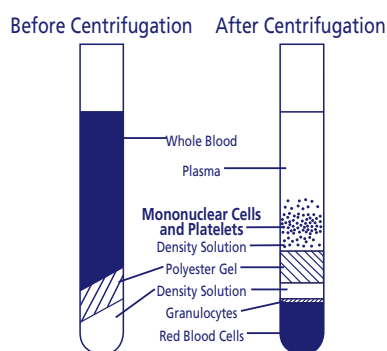

Figure 2
- After centrifugation, mononuclear cells and platelets will be in a whitish layer just under the plasma layer (see Figure 2). Aspirate approximately half of the plasma without disturbing the cell layer. Collect cell layer with a Pasteur Pipette and transfer to a 15 mL size conical centrifuge tube with cap. Collection of cells immediately following centrifugation will yield best results.